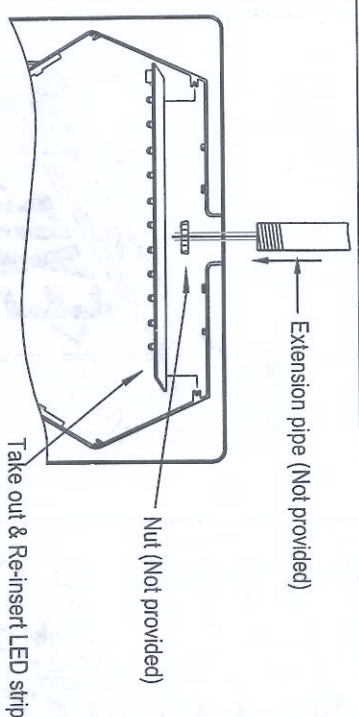

Fig. 5 For pendant mounting
1. Feed the stem with threaded end into the center hole on the top of the housing and fasten using nut (not provided). Take out LED strips carefully before placing the stem into the center hole and replace the LED strips back to the slot after installing the stem. (See Fig.5)